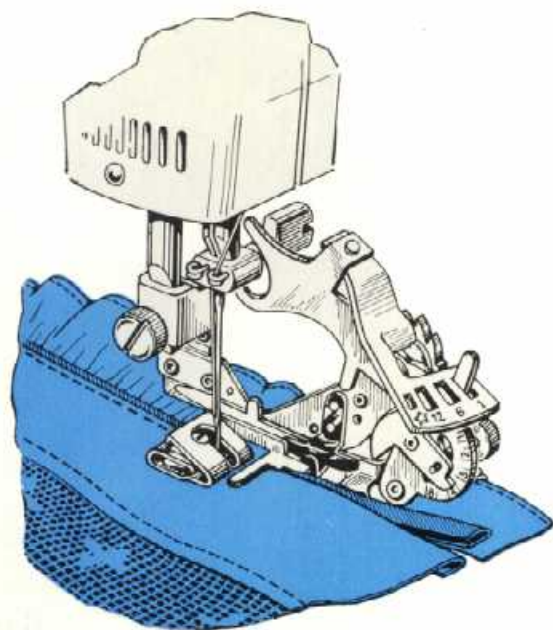

Fig. 74
- 4) Lower presser bar and sew. Fig. 74 shows the procedure described above.